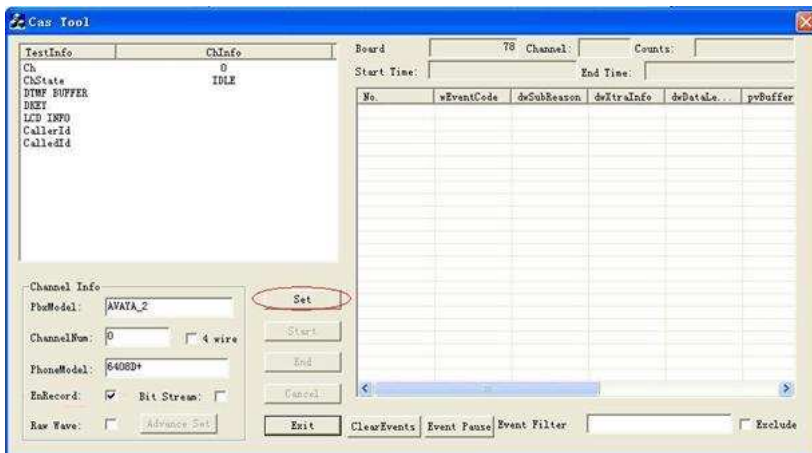

Figure 2-4
**Step 4:** When you finish setting the parameters under 'Channel Info', click on 'Set' as shown in Figure 2-4.